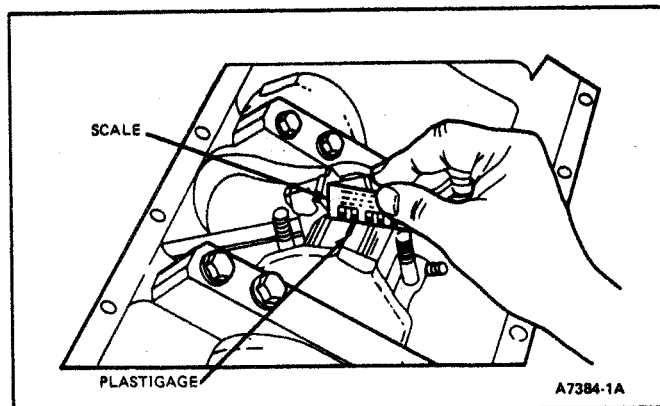

FIG. 77 Checking Connecting Rod Bearing Clearance
4. Remove bearing cap and use Plastigage scale to measure widest point of Plastigage (Fig. 77). Reading indicates bearing clearance in thousandths of an inch.